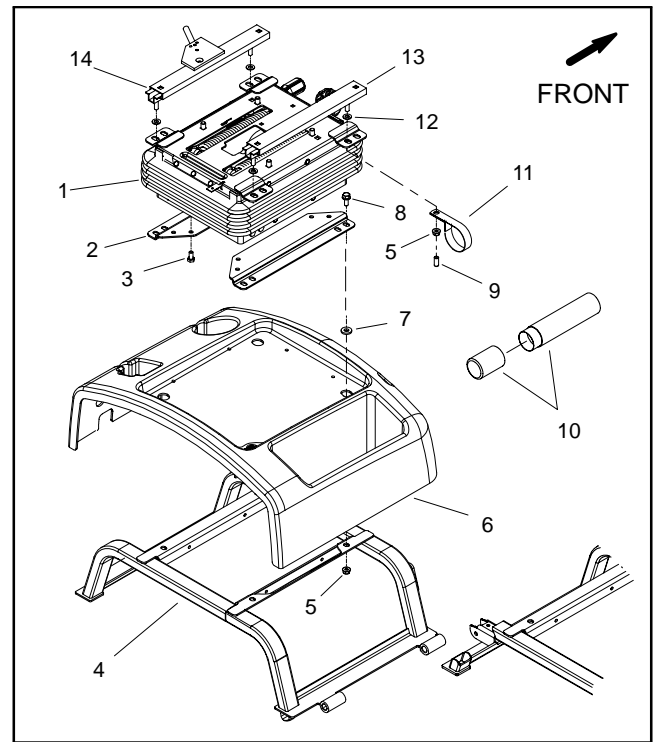

Figure 19
5. Support seat suspension to prevent it from falling. Remove four (4) flange head screws (Figure 19 item 8) and flange nuts (Figure 19 item 5) that secure seat suspension to seat frame.
6. Remove seat suspension from machine. Locate and retrieve four (4) spacers (Figure 19 item 7) from between seat suspension and seat frame.
2. Position seatbase cover and four (4) spacers (Figure 19 item 7) to seat frame.
3. Position seat suspension to seat frame and secure with four (4) flange head screws (Figure 19 item 8) and flange nuts (Figure 19 item 5). Use forward holes in seat brackets to mount suspension.